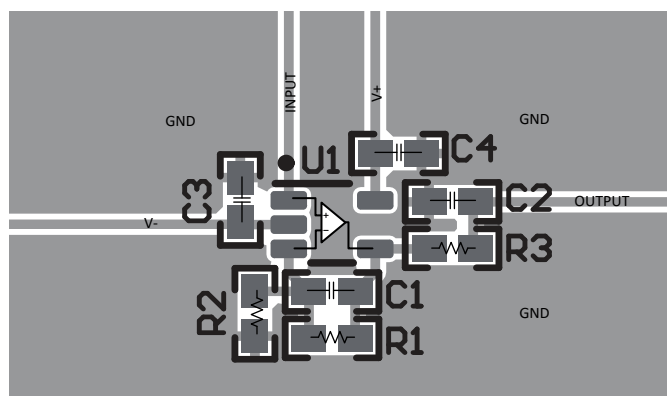

Figure 7-4. Operational Amplifier Board Layout for Non-inverting Configuration - SC70 (DCK) Package
- Place the external components as close to the device as possible. As shown in Figure 7-4, keeping RF and RG close to the inverting input minimizes parasitic capacitance.